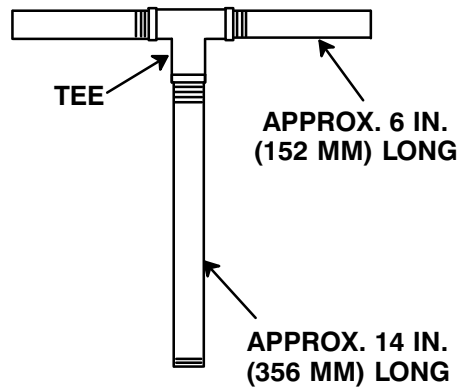

Figure 9. Rotating Assembly Tool
*An optional disassembly tool is available from the factory. If the tool is used, follow the instructions packed with it. A similar tool may be assembled using 1/2-inch pipe (schedule 80 steel or malleable iron) and a standard tee (see Figure 9). All threads are 1/2-inch NPT. **Do not pre-assemble the tool.***